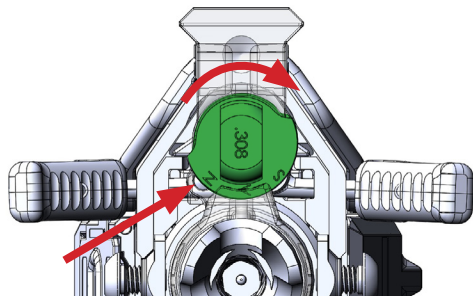

Fig. d-2
2. Install the gas valve in the front of the gas block with the firing condition rib at the 12 o'clock position, then rotate it until the detent clicks into the desired firing condition setting. (Fig. d-2) Use a punch tool to depress the detent to allow initial rotation.